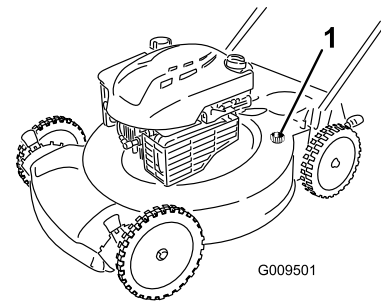

Figure 21
4. Attach a garden hose that is connected to a water supply to the washout port on the mower housing (Figure 21).